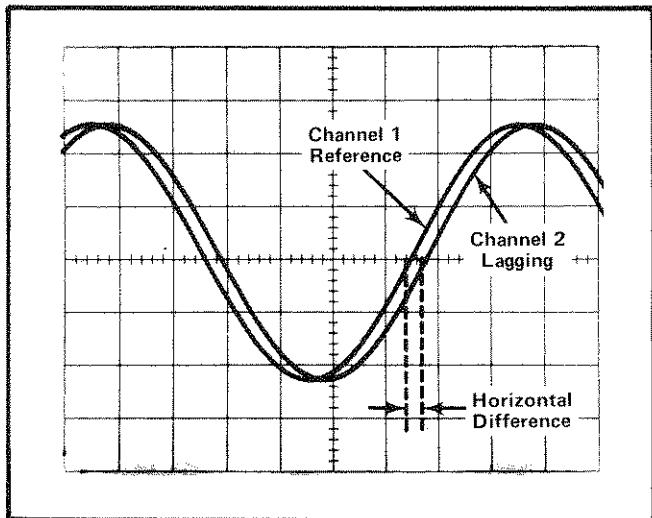
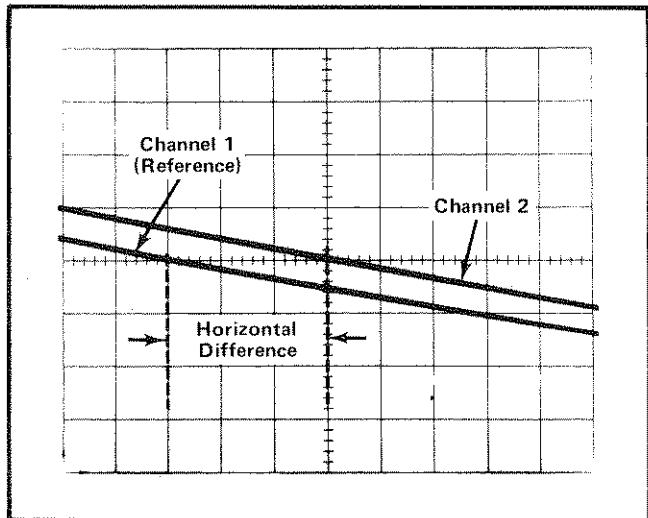

Fig. 1-6. Measuring phase difference between two signals.
Fig. 1-7. High resolution phase measurement using time-base magnifier.
8. Adjust the time-base Variable Time/Div control until one cycle of the reference signal occupies exactly eight horizontal divisions between the second and tenth vertical lines of the graticule (see Fig. 1-6). Each division of the graticule represents 45° of the cycle ($360^\circ \div 8$ divisions = 45° /division). The sweep rate can now be stated in terms of degrees as 45° /division.
EXAMPLE: Assume a horizontal difference of 0.3 division with a sweep rate of 45° /division as shown in Fig. 1-6.
EXAMPLE: If the sweep rate is increased 10 times by the Magnifier, the magnified sweep rate is 45° /division $\div 10$ = 4.5° /division. Fig. 1-7 shows the same signals as used in Fig. 1-6 but with the Magnifier set to X10. With a horizontal difference of 3 divisions, the phase difference is: